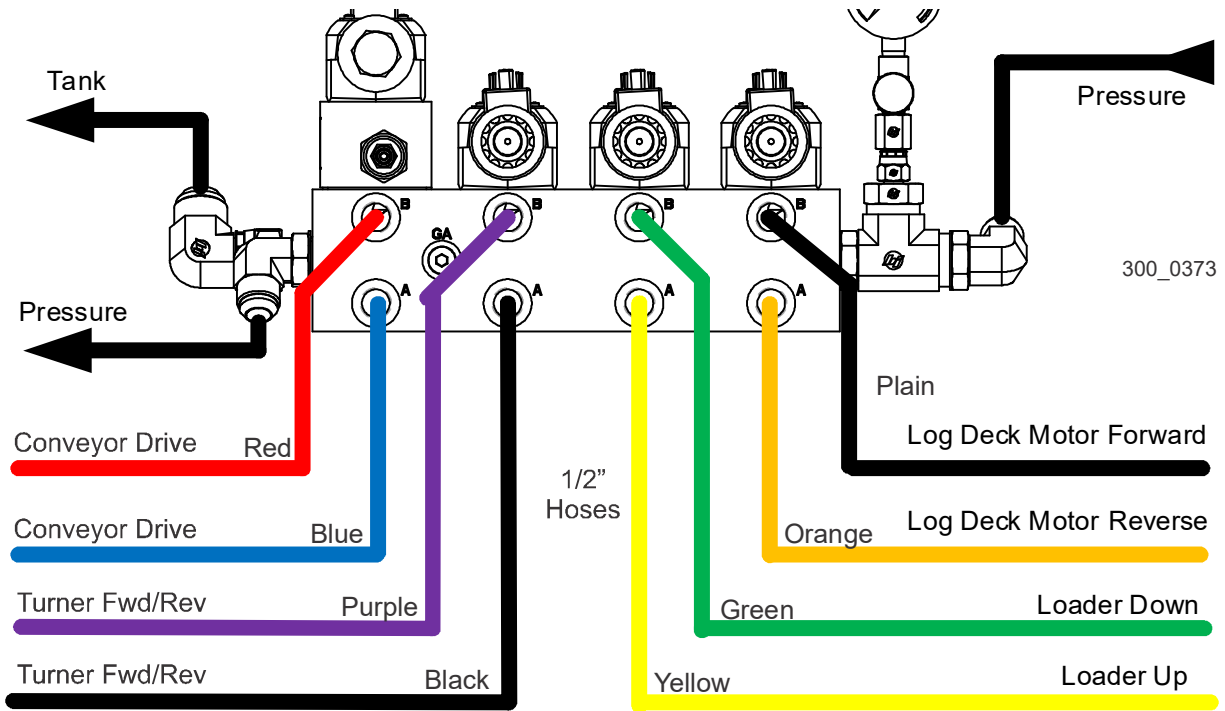
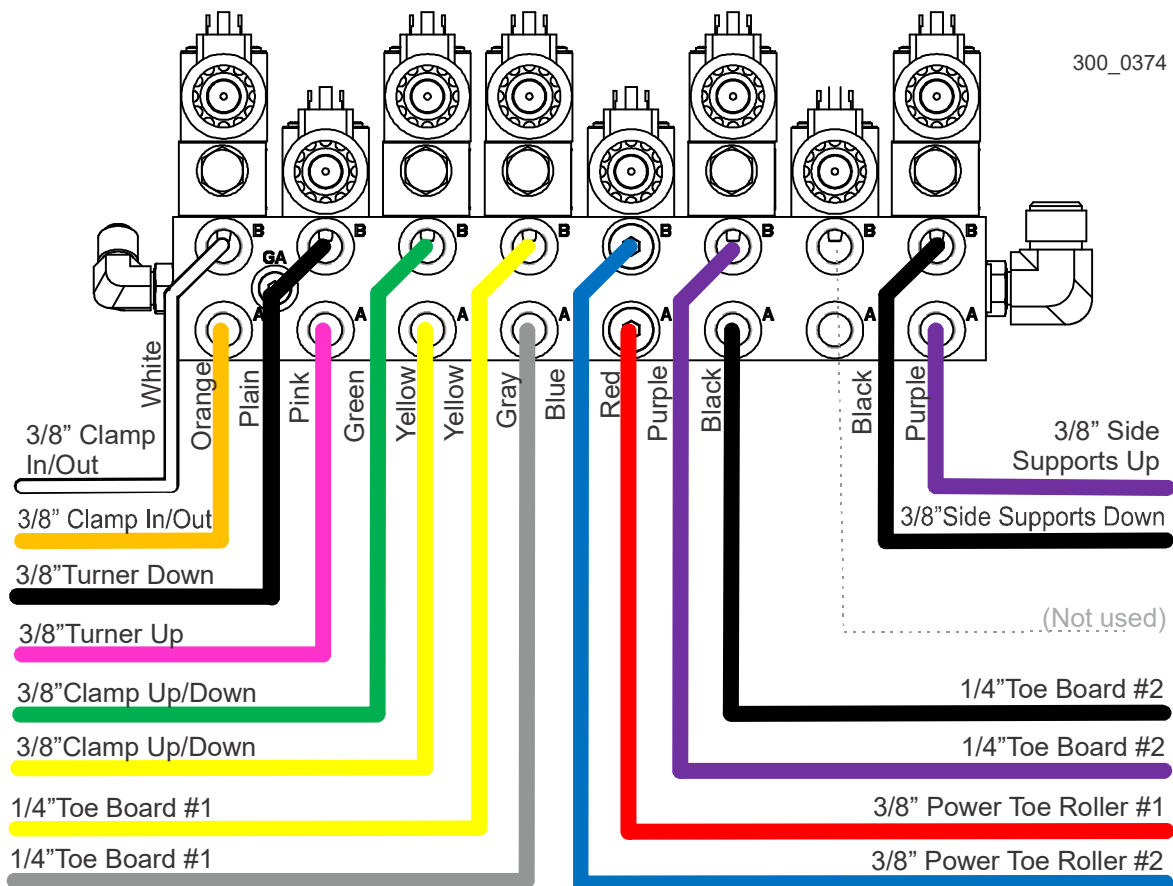

FIG. 3-23
FIG. 3-24
- Remove the plugs from the hoses and connect each hose to the appropriate fitting on the hydraulic power unit. See Fig. 3-23 and Fig. 3-24.